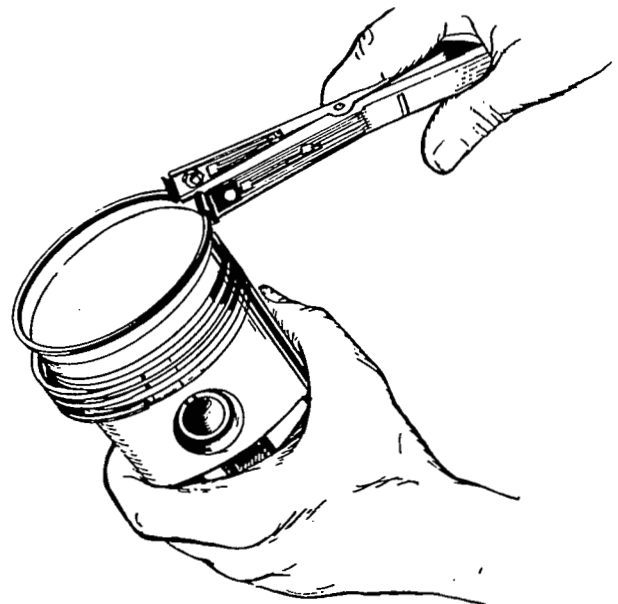

FIGURE 59. REMOVING PISTON RINGS
5. Remove the piston rings from the piston with a piston ring spreader as shown in Figure 59. Remove the piston pin retainer and push the piston pin out.